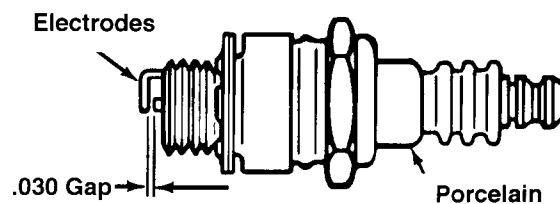

FIGURE 12B
6. Adjust the gap between electrodes to .030 inch using a wire feeler gauge. See figure 12B.